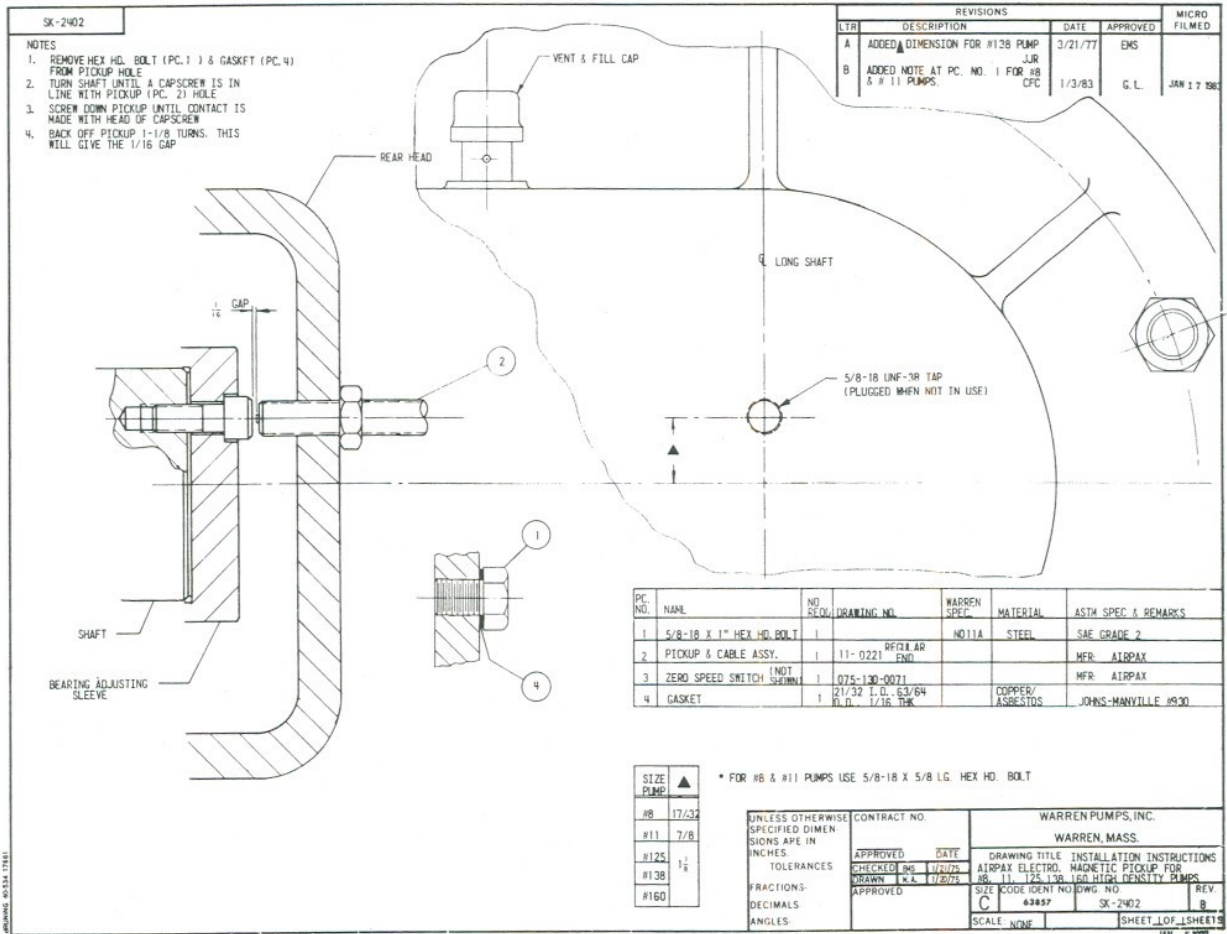

Fig. 3-5.4
- b. **Pick-Up Installation and Setting** — (see fig. 3-5.4)